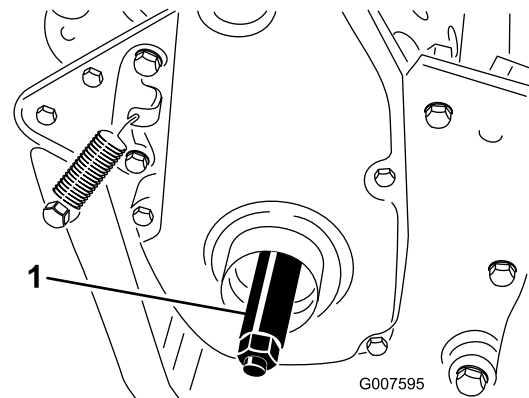

Figure 9
- Thread the right wheel shaft into the drive pulley on the right side of the machine (Figure 9).